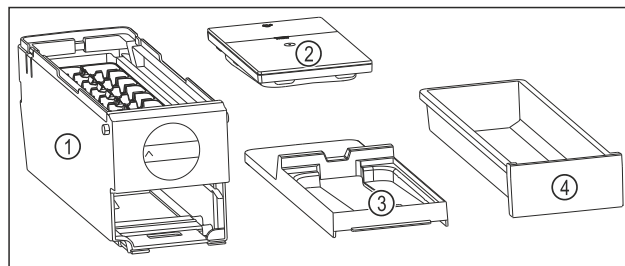

Fig. 133 Components of the EasyTwist-Ice
- ▷ EasyTwist-Ice is dismantled into four parts. (see Fig. 133)
- Only dismantle the EasyTwist-Ice into the components shown. (see Fig. 133)
- Clean the EasyTwist-Ice body Fig. 133 (1) as a whole.